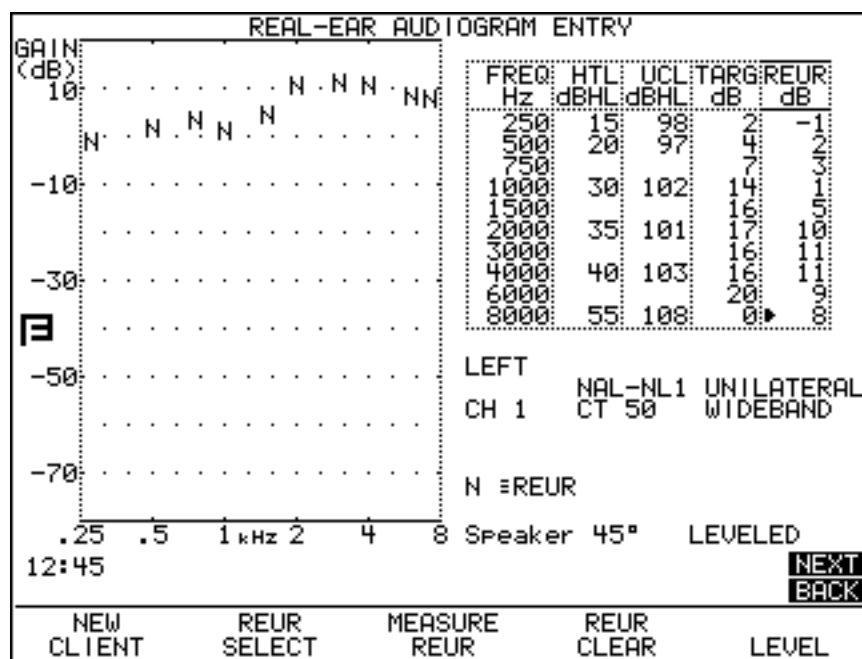

Figure 5.3.8—Unaided Measurement in the Audiogram Entry Screen
9. Press [START/STOP] to measure the unaided response. This unaided response will be available for use and display in the Real-Ear Measurement Screens. See Figure 5.3.8.